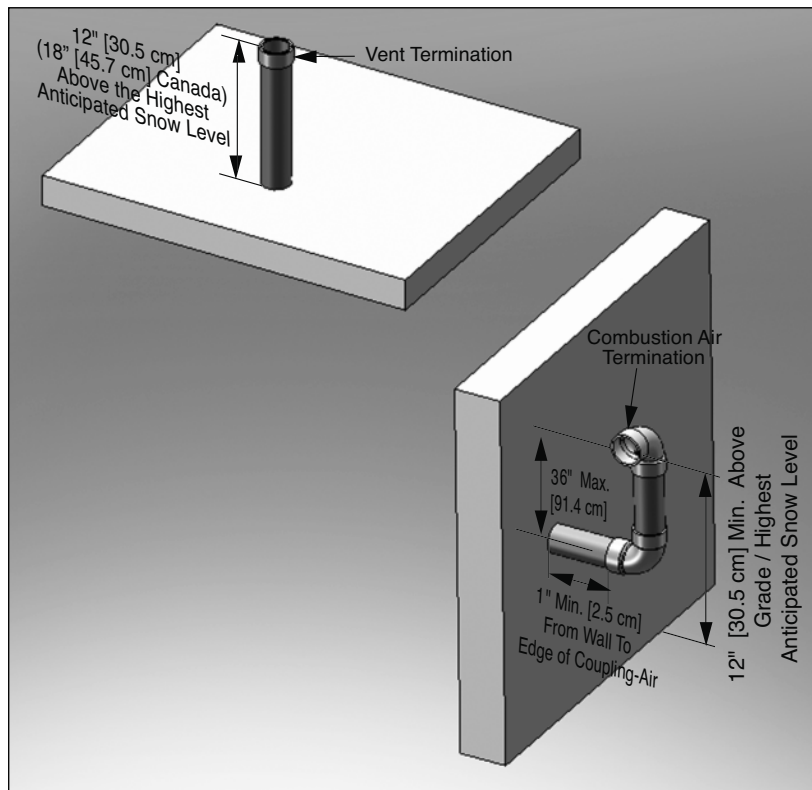

Fig. 21: Direct Vent - Vertical Vent and Side Wall Combustion Air
2. The combustion air piping must terminate with a 90° elbow. Fig. 21 shows a snorkel termination option. The combustion air pipe can also terminate using a 90° elbow directed down or to the left or right as shown in Fig. 8 page 17 or Fig. 13 page 18. The termination must be installed 12" [30.5 cm] minimum above grade / highest anticipated snow level and as shown in Fig. 8 page 17 or Fig. 13 page 18 or Fig. 21.
6. The edge of the combustion air pipe must extend to 1" [2.5 cm] below the finish as shown in Fig. 21 page 23
Do not extend the vent pipe above the roof beyond the dimension shown in Fig. 21 on page 23. Extended exposure of the vent pipe could cause condensate to freeze and block the vent pipe.